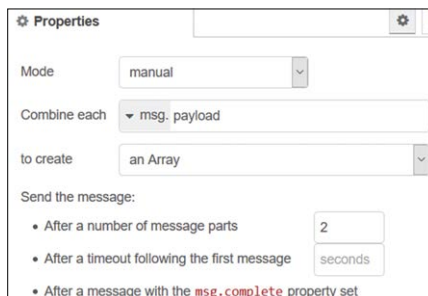

Figure 6.15 Configure the join node
- Create a **join** node and configure it as shown in Figure 6.15. This node will join the two random numbers into an array. Click **Done**.